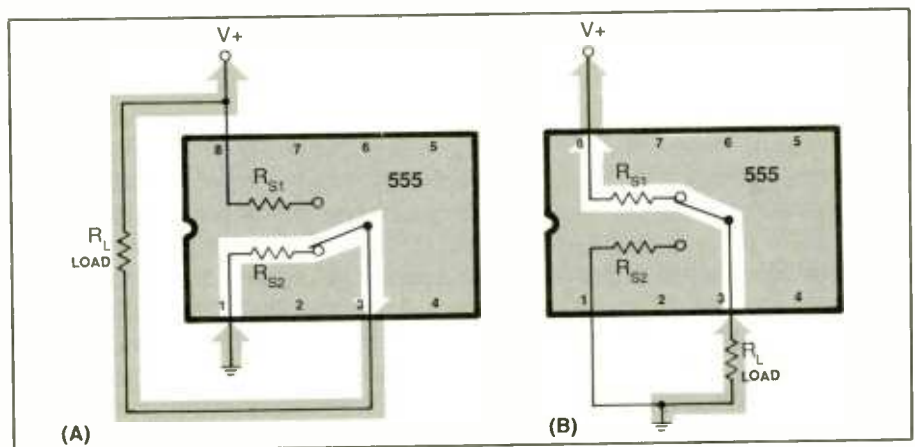

Fig. 2. Examples of a 555 used as (A) an output current sink and (B) an output current source.
on the configuration of the external load. Figure 2 illustrates both types of operation.
The arrangement shown in Fig. 2(A), in which external load  $R_L$  is connected between the 555 output and  $V+$ , allows current to flow in the load only when pin 3 is low. In this condition, the external load is grounded through pin 1 and small internal source resistance  $R_{S1}$ . In this arrangement, the 555 output is a current sink.
The circuit shown in Fig. 2(B) is for the case where the load is connected between pin 3 of the 555 and ground. When the output is low, the load current is zero. However, when the output is high, the load is connected to  $V+$  through small internal resistance  $R_{S2}$  and pin 8. Here, the output is a current source.